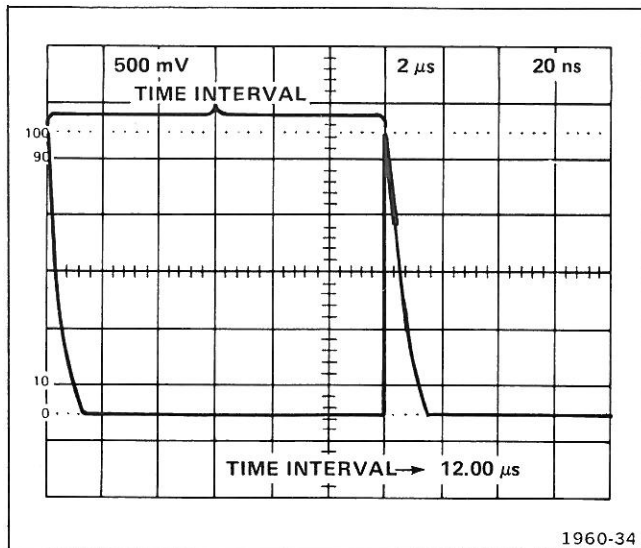

Fig. 1-8. Measuring time intervals from a triggering event (start of sweep) to any point on a waveform.
6. Set the vertical deflection factor and 7B85 sweep rate for the desired display. See the example in Figure 1-8.
7. Set the delayed (B) unit sweep rate for about a 0.5-division intensified zone.
9. Read the time interval from the start of the sweep to the leading edge of the intensified zone directly on the crt readout (see Figure 1-8).